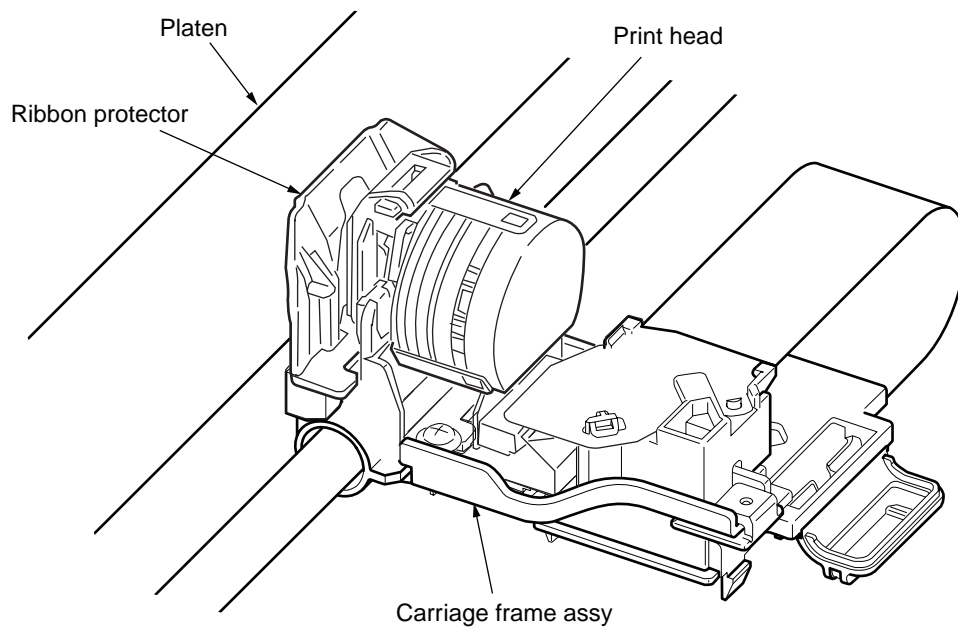

Figure 13
(3) Top line print mechanism (See Figure 13.)